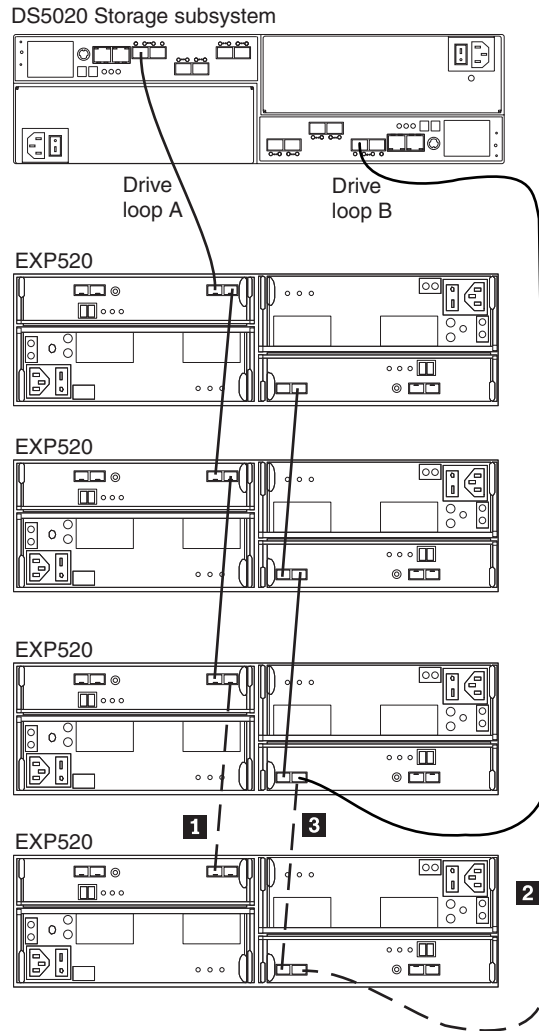

Figure 33. Cabling the EXP520 to an existing and configured drive loop
Figure 33 on page 67 shows an example of a DS5000 storage subsystem configured with redundant drive loop pairs.
The dashed lines in Figure 33 show how to add a new EXP520 to an existing DS5000 configuration with EXP520s. To add the new EXP520 shown in Figure 33, perform the following steps:
4. Make the fibre-channel connection marked **1** in Figure 33 (drive loop A) by connecting port 1A of the existing EXP520 to port 1B of the new EXP520 . Then verify that it is recognized by the DS Storage Manager software GUI.
5. Move the existing fibre-channel connection marked **2** in Figure 33 from the existing EXP520 enclosure ESM port 1B to the new EXP520 enclosure ESM port 1B.
6. Make the fibre-channel connection marked **3** in Figure 33 (drive loop B) by connecting port 1A of the new EXP520 to port 1B of the existing EXP520.